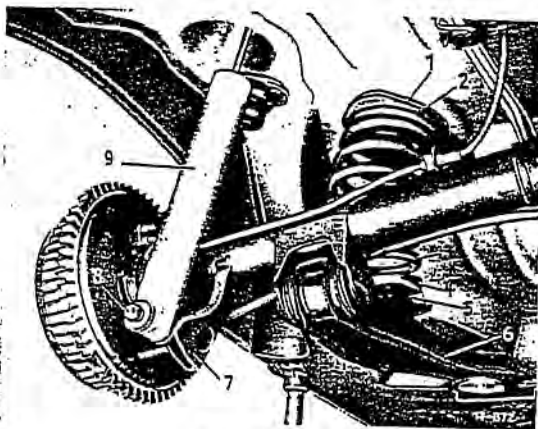

Fig. 32-5/1
2. Slightly raise the axle tube by means of the jack (Fig. 32-5/2).
**Note:** When raising the axle tube, the jack can be placed either under the torque arm or, together with Flange 111 589 01 63 (5), under the rear axle shaft (Fig. 32-5/2).